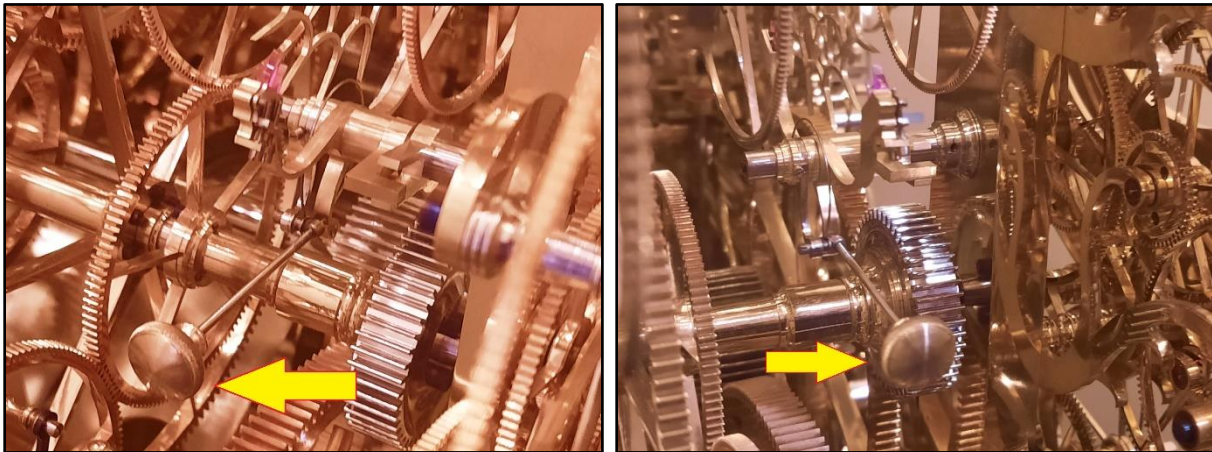
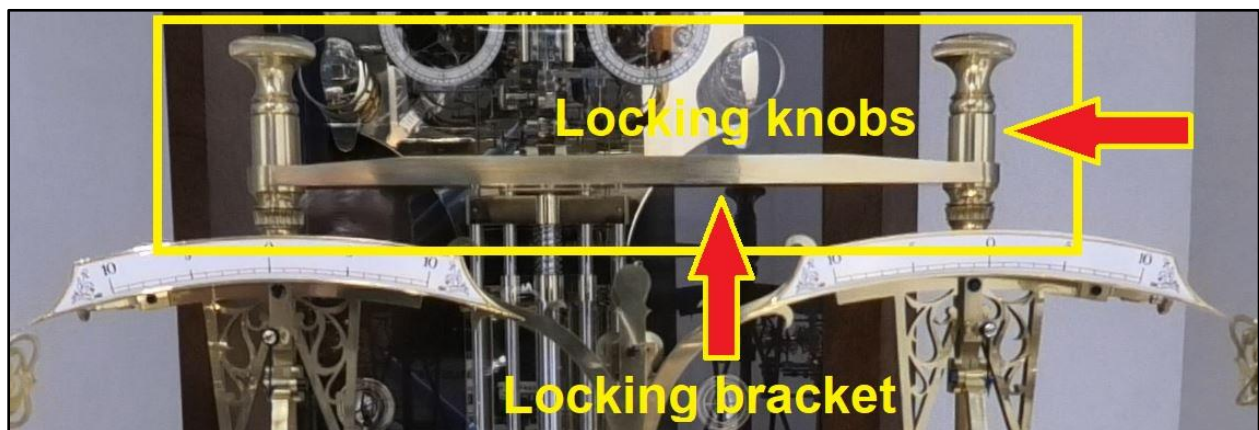

Fig. 2. Beat regulation knob for seconds coup perdu Fig. 3.
Fig. 3. Pendulum locking bracket
A. There is knurl control knob for adjusting the left-to-right depthing of the jeweled escapement coup perdu pallets. This should not need adjustment but can be used if the escape wheel sounds out of beat, Fig. 2 and Fig. 3.
7. Remove the two locking bracket knurl nuts from the bottom balance threads. Place locking bracket onto the two upper balances taking note that the taper side is up, flat side down; and lock in place using the two knurl locking nuts, Fig. 3. ⚠️Note! Doing this at this time is essential to hold the balances steady for all further assembly steps. Omitting this will result in damage!